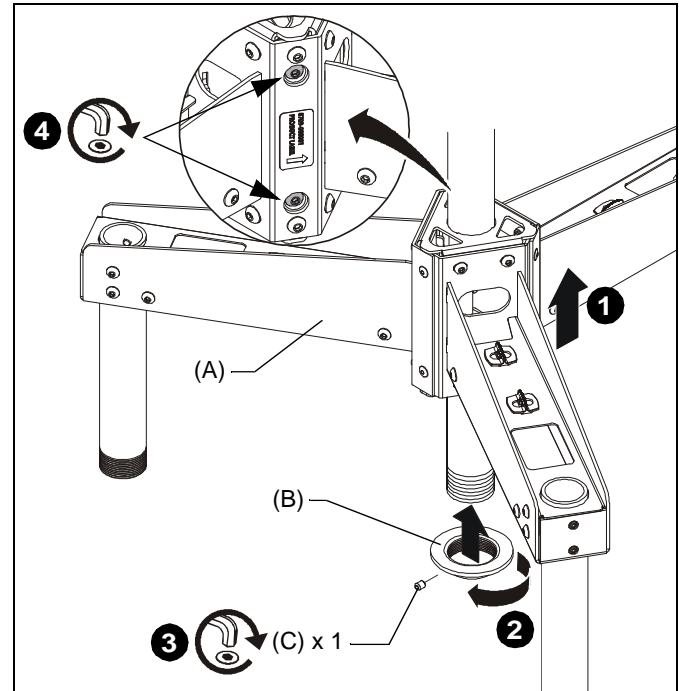

Figure 2
1. Slide triple ceiling accessory (A) up from below onto installed column (not included). (See Figure 2)
2. Thread bottom coupling (B) onto installed column at base of triple ceiling accessory until tight, with a minimum of four threads engaged. (See Figure 2)
3. Install and tighten one 10-24 x 1/4" set screw (C) into bottom coupling (B). (See Figure 2)
4. Tighten two existing 5/16 x 1-1/2" button head cap screws in center of triple ceiling accessory. (See Figure 2)